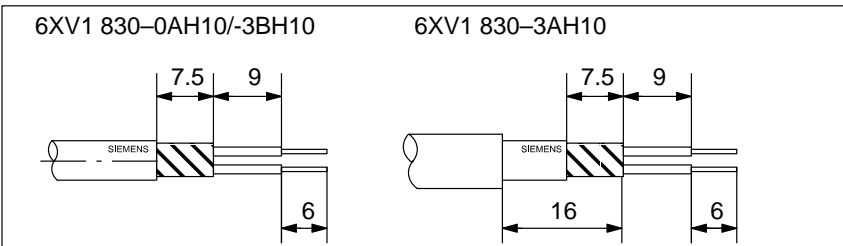

Figure 3-11 Length of Bared Wire for Connecting to the Bus Connector
2. Insulate the bus cable in accordance with Figure 3-11.